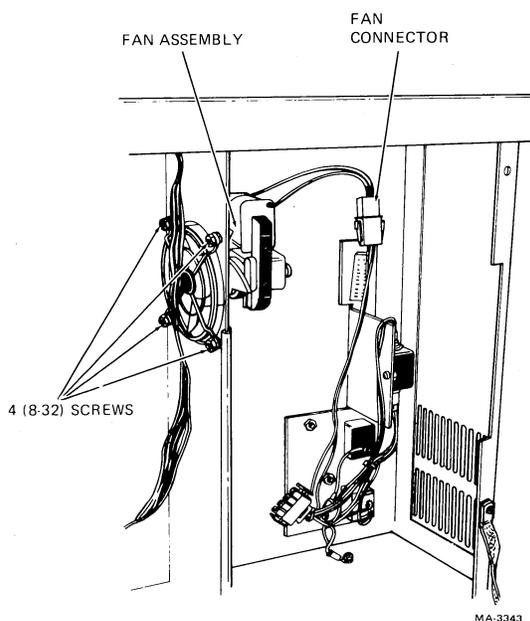

Fig. 26—Fan Assembly Removal and Installation
- (d) Disconnect the fan connector and remove the fan assembly (Figure 26).